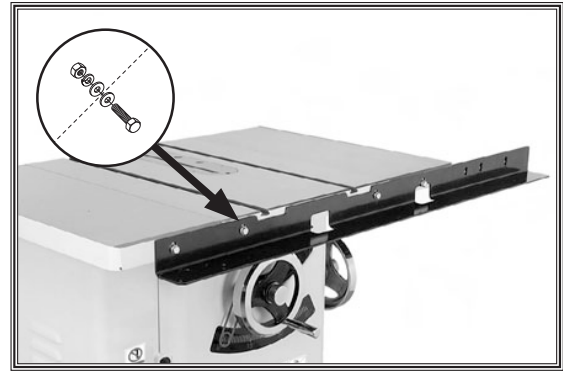

Figure 16. Front rail installed (W1819).
10. Install the front rail onto the table and extension wings with four M8-1.25 x 40 hex bolts, eight 8mm flat washers, four 8mm lock washers, and four M8-1.25 hex nuts, as shown in **Figure 16**.